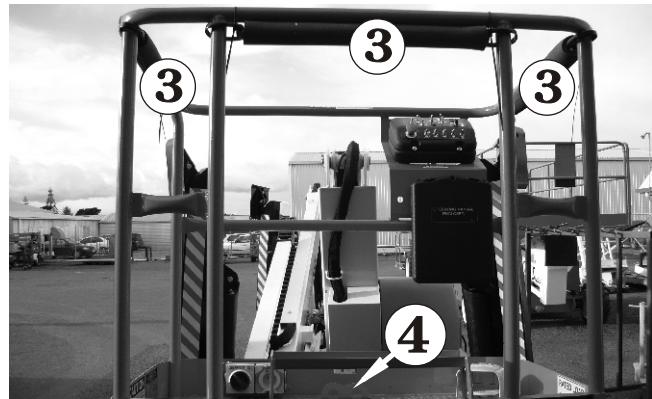

Figure 8.9
3. Enter the platform, close the gravity gate ③, and attach the lanyard of your safety harness to one (1) of the anchor points ④ (see Figure 8.9).